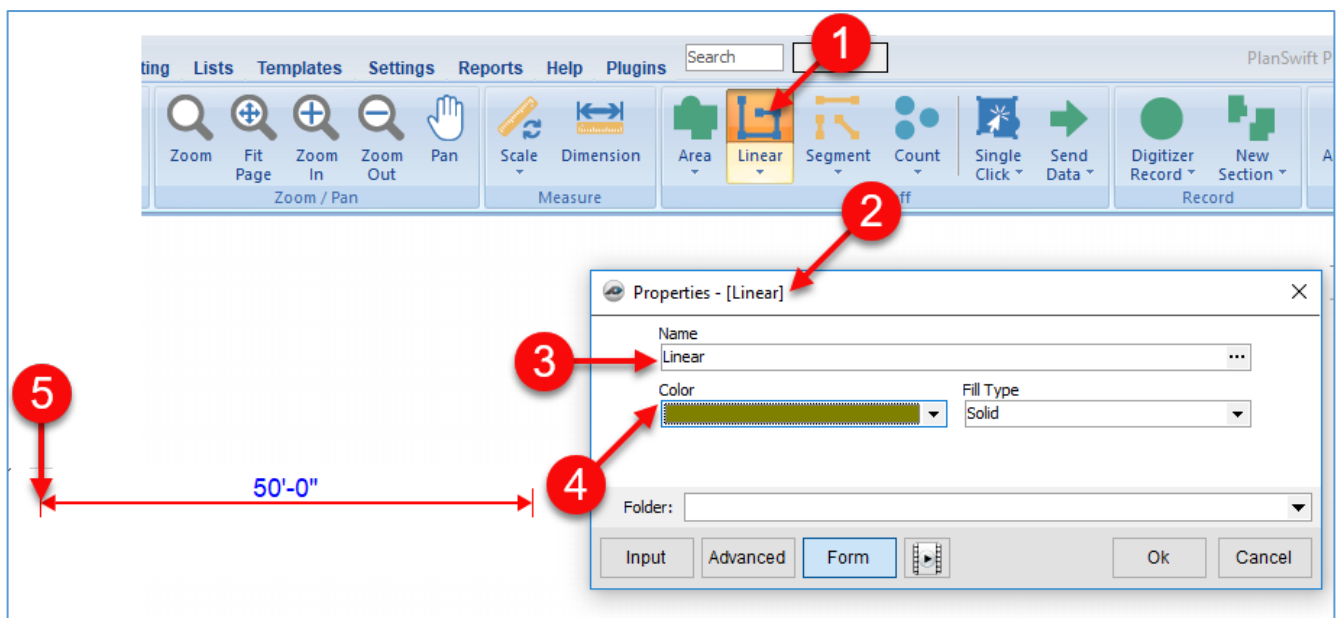

Figure 24-A
6. Press the **A** key on the keyboard to specify an arc, and then click on where the circle diameter should extend to (Fig. 24-B). This defines the middle **Point** of the circle's arc. The diagram shows the magnifier (pressing letter M on the keyboard) being used to more accurately place the middle **Point**.